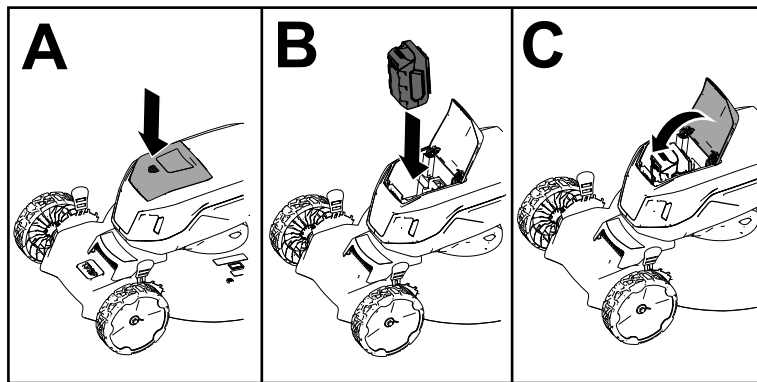

Figure 11
2. Press down on the battery-compartment lid to open it (A of Figure 11).
3. Line up the cavity in the battery pack with the tongue on the machine and slide the battery pack into the compartment until it locks into place (B of Figure 11).
4. Press down on the battery-compartment lid until it clicks into place (C of Figure 11).